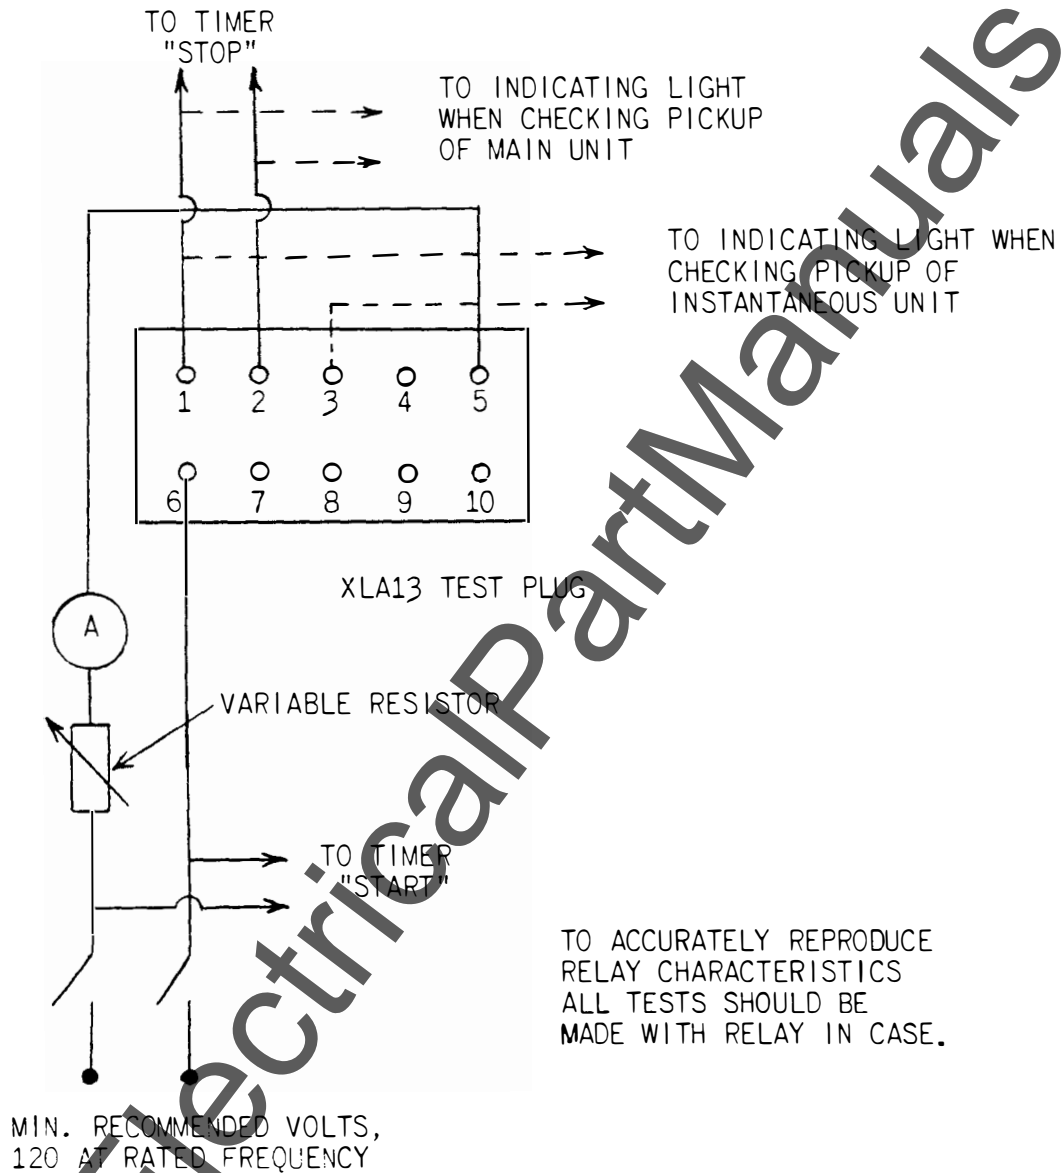

FIG. 13 (K-6154399-7 ) TEST CONNECTIONS FOR TESTING PICK-UP AND TIME CURVE OF IAC RELAYS
2. Connect the operating coil terminals to a source of the proper frequency and good waveform having a voltage of 120 or more, with pure resistance load boxes for setting the current. See test circuit Fig. 13.